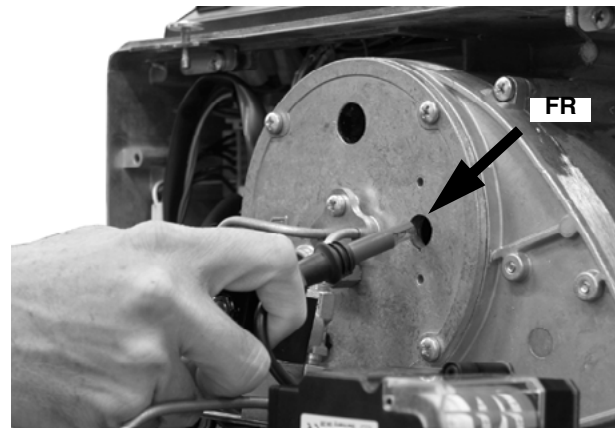

Fig. 54
- Withdraw the photoelectric cell **FR** from its housing (Fig. 54).